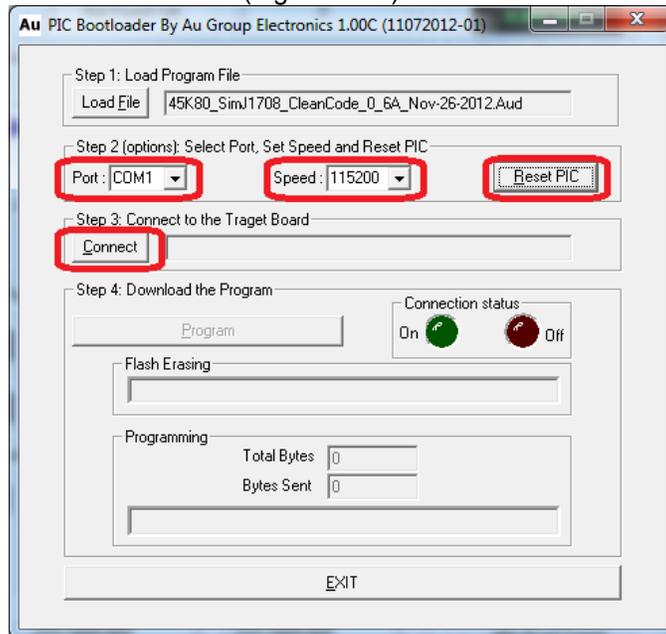

Figure B-11
- Within 10 seconds, click “Connect” button (Figure B-11).